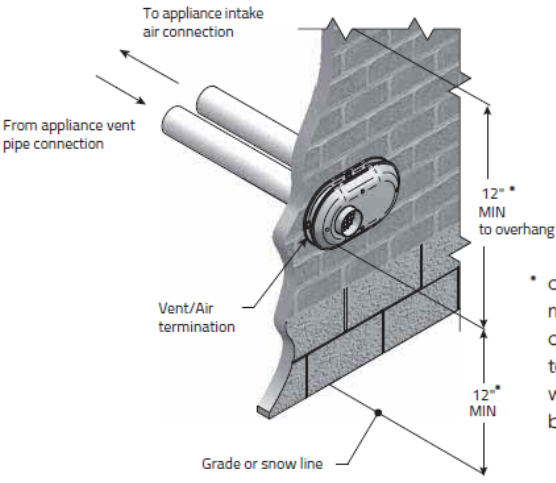
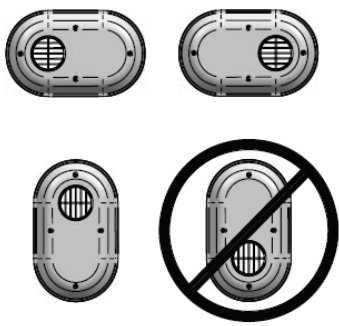
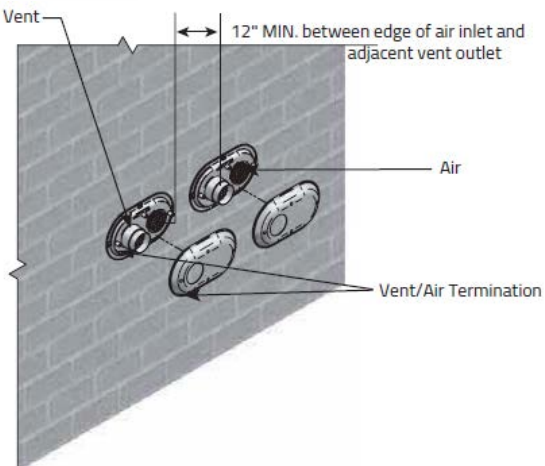

Fig. 10
Fig. 11
Fig. 13
When locating the penetration of the vent and air pipe, ensure the termination is properly oriented as shown in Figure 11 and ensure that it maintains minimum clearance requirements as shown in Figure 10. For multiple vent terminations, ensure that a minimum clearance of 12 in (30 cm) is maintained between edge of air inlet and adjacent vent outlet and that all vent pipes and air inlets terminate at the same height to avoid the recirculation of flue gases and the possibility of causing severe personal injury, death, or substantial property damage (see Figure 13).
2. Slide both the intake and vent pipe through the holes. Solvent weld both pipes to the base of the vent termination kit (see Figure 10).